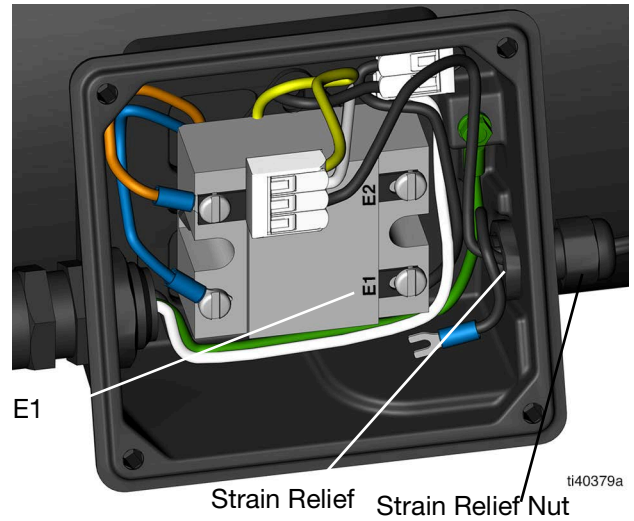

FIG. 20
4. Twist the strain relief nut on using a wrench until tightened (FIG. 20).
5. Crimp the fork connector to one of the pressure switch wires (FIG. 20).
7. Reinsert the second wire back into the connector containing the yellow and white cables (FIG. 20).